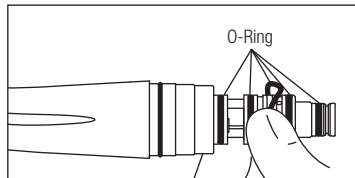

Fig. 8
- 2) Gently remove each O-Rings with your thumb. (Fig. 8)